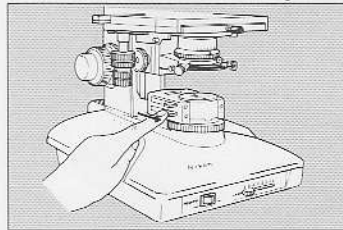

Fig.3-4
- 4) Slide the filter insertion/ removal knobs of the ND filter cassette to the limit to place the entire ND filter in the optical path (Fig. 3-4).